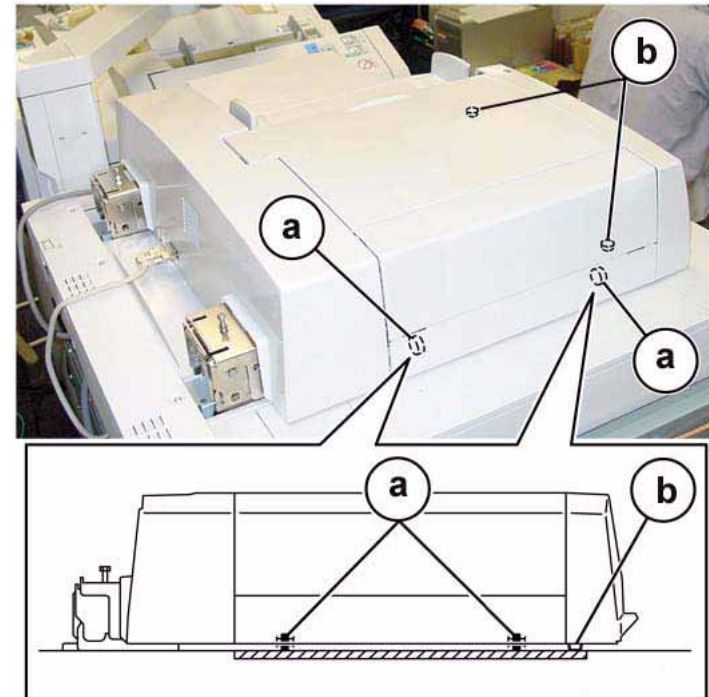

Figure 1 DADF height adjustment verification points
2. Remove the IIT Front Cover, secured by (4) screws, two of which are hidden behind the Front Toner Door. PL 13.1
4. Check the gap between the DADF Platen Guide bearings and the CVT Platen Glass, as well as the gap between the DADF front feet and the Platen Glass. Figure 1
- a. Verify that the DADF Platen Guide bearings (2), located at the front and rear of the Platen Roll (PL 14.9) are evenly (equally) touching the CVT Platen Glass. Open and close the DADF and observe the bearings to verify that they are simultaneously and evenly touching the CVT Platen Glass.
- b. Verify that the feet (2) at the front of the DADF (PL 14.12) are touching the Platen Glass. Clearance should be 0.5 mm or less.